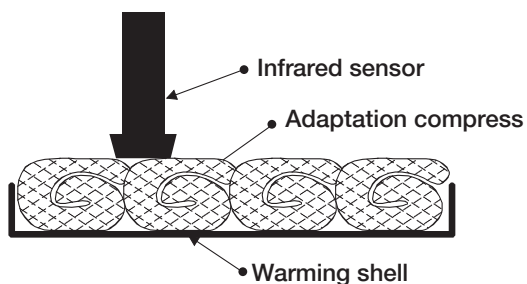

Figure 2: Pre-warming of adaptation compresses in SAHARA-TSC
- Open the system flap and lay the required number of up to 4 adaptation compresses in the warming shell as described in Figure 2. Place the infrared sensor completely on the compress below.